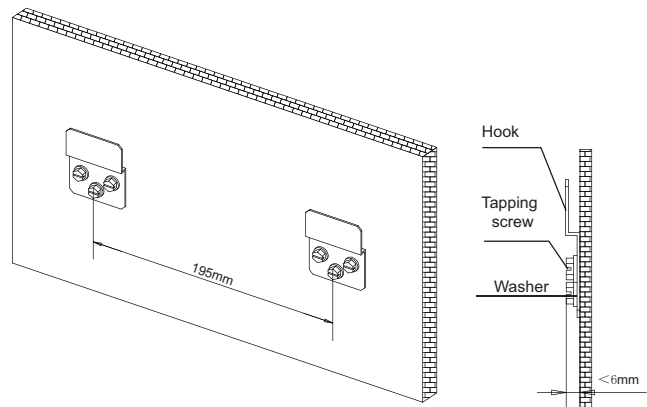

Fig.5-3
- Fix the hook with tapping screw onto the wall.(Refer to Fig.5-3)